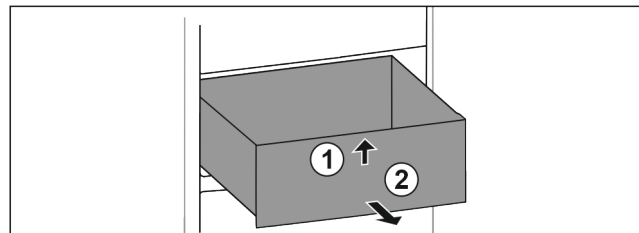

Fig. 93
- ▶ Lift drawer at the front. Fig. 93 (1)
- ▶ Remove drawer to the front. Fig. 93 (2)